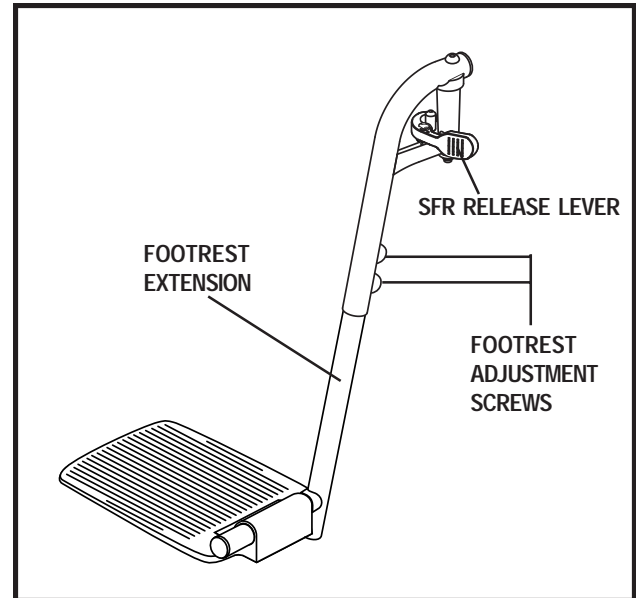

Figure 24. Swing-away Footrest Adjustment
1. Push in the release lever. See figure 24.
1. Remove the two adjustment screws from the side of each footrest extension. See figure 24.